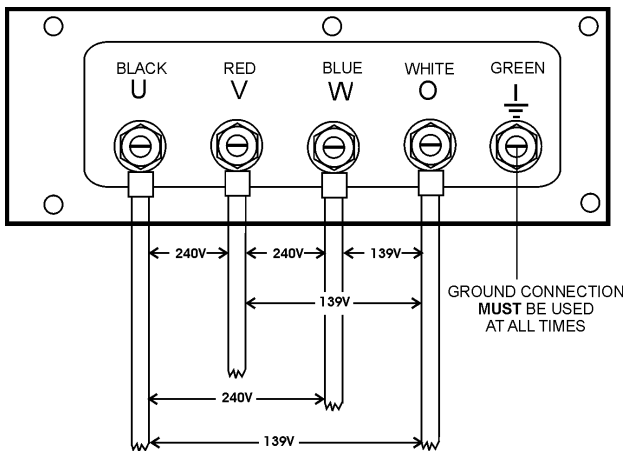

Figure 20. UVWO Terminal Lugs 3Ø-240/1Ø-139 Connections
2. Connect the load wires to the UVWO terminals as shown in Figure 20.